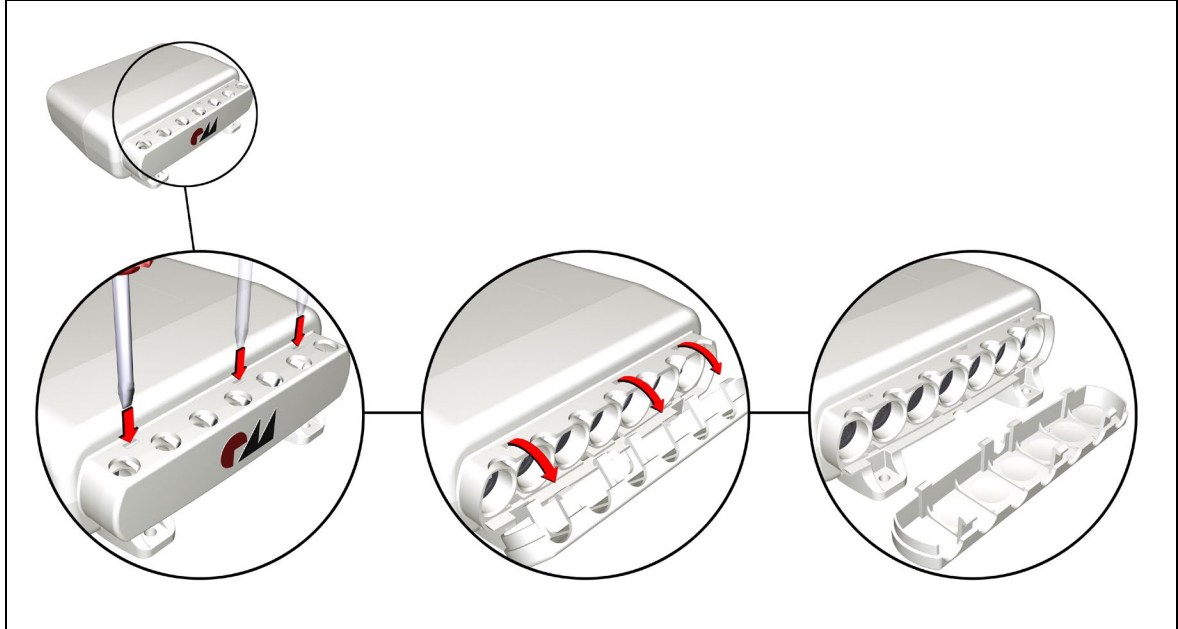

Figure 11 Opening the shield cover on the MCL III control unit
- 2 Use a suitable tool to press the three locking clips down in the notches as shown in Figure 11. At the same time, tilt the shield cover forward so that the clips come out of the notches.
- 2 Use a suitable tool to press the three locking clips down into the notches as shown in Figure 11. At the same time, tilt the shield cover forward so that the clips come out of the notches.
- 2 Open and remove the cover (refer to Figure 11).